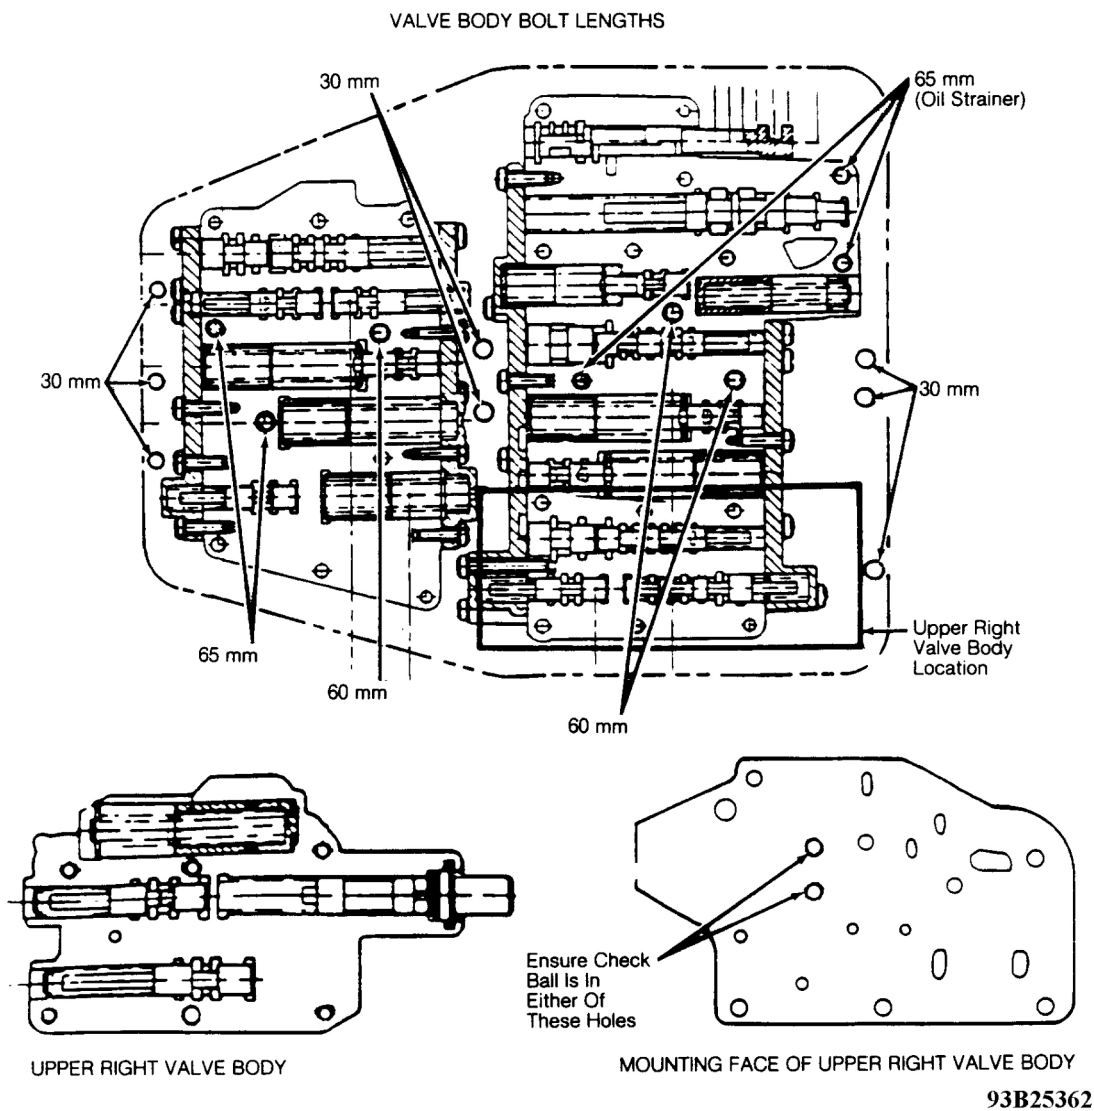

Fig. 23: Locating Valve Body Bolts
4. Invert main valve body assembly and install rear valve body. Ensure proper length bolts are installed in correct area. See **Fig. 23**.